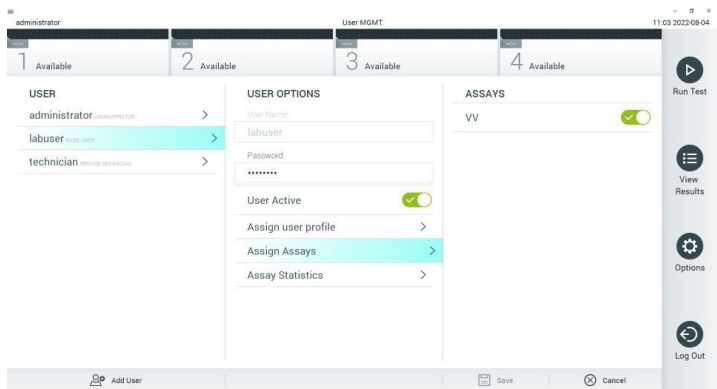

Figure 24. Assigning the active assay.
- Assign the active assay to the user by pressing the **Options** button and then the **User Management** button. Select the user who should be allowed to run the assay. Next, select **Assign Assays** from the "User Options". Enable the assay and press the **Save** button (Figure 24).